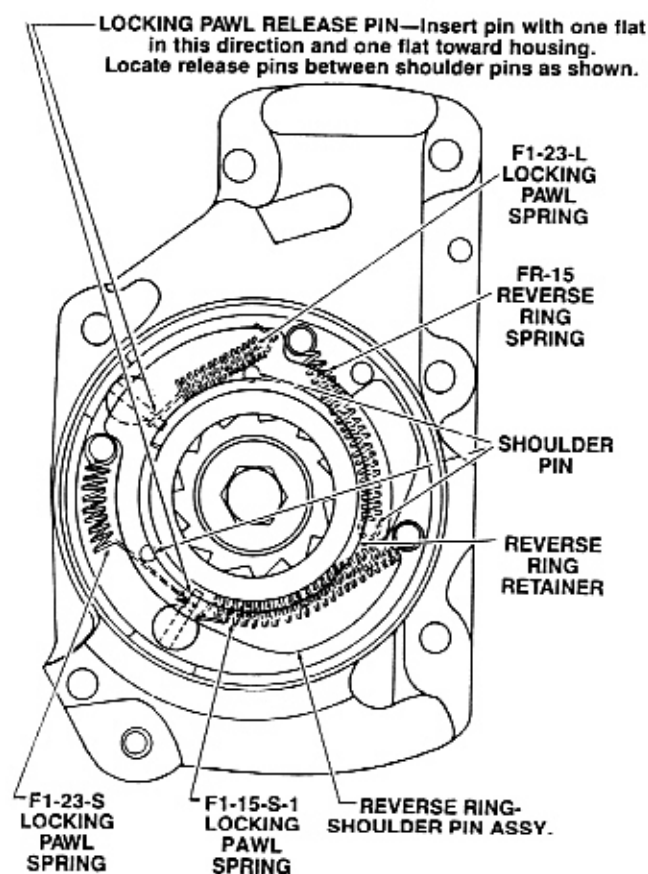

FIGURE 4-5. REVERSE RING ASSEMBLY FOR FGI AND FTGI HOISTS
- c. Turn reverse lever (41) to "Down" position so that reverse ring stop pin (36) is pulled in. Apply a coating of Duff-Norton H-7613 grease, or equivalent, to mating surfaces of right frame (48) and reverse ring-shoulder pin assembly (26). Place reverse ring-shoulder pin assembly on right frame. See figure 4-5. Make sure that reverse ring-shoulder pin assembly is located so that when installed, locking pawl release pins (27) will be located as shown in figure 4-5. Install reverse ring retainer (22). Line up two flats on locking pawl release pin and drive pin into locking pawl until pin is flush with the inside of locking pawl. Place end loop of locking pawl spring (24) and continue driving locking pawl release pin until the outside end of pin is flush with locking pawl. Install remaining locking pawl release pin in the other locking pawl. Install reverse ring spring (25) and locking pawl springs (24, 25A & 25B). Apply a light coating of Duff-Norton H-7613 grease, or equivalent, to reverse ring-spring assembly (-23) and fill cavity in sprocket shaft (32) with a grease gun.